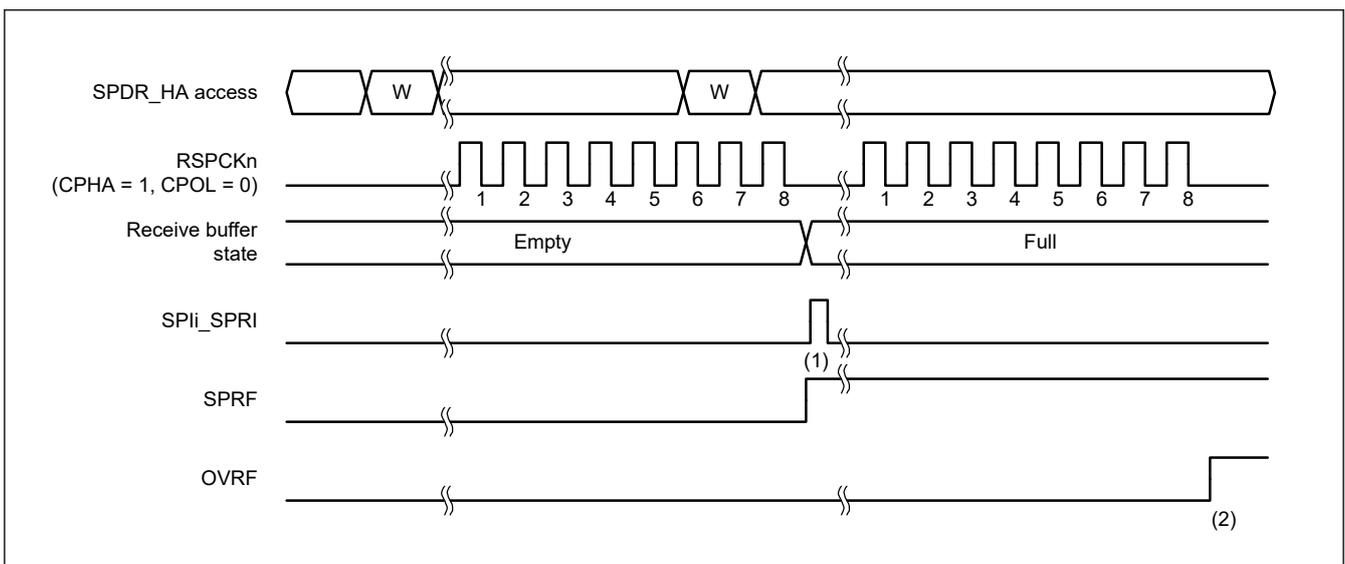
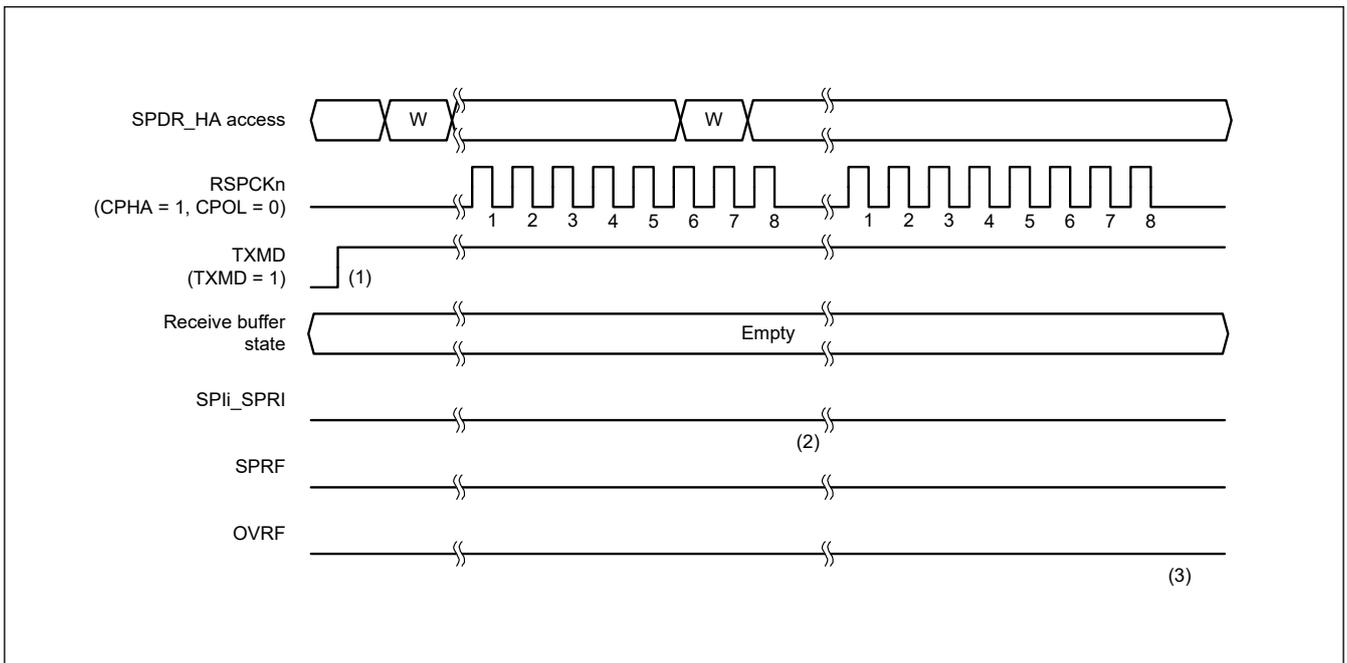

Figure 27.23 Operation example when SPCR.TXMD = 0
Figure 27.24 Operation example when SPCR.TXMD = 1
Full-duplex synchronous serial communications or transmit operations can only be selected in the Communications Operating Mode Select bit (SPCR.TXMD). The register accesses shown in Figure 27.23 and Figure 27.24 indicate the condition of access to the SPDR/SPDR_HA register, where W denotes a write cycle.
Figure 27.23 shows an example of operation when the Communications Operating Mode Select bit (SPCR.TXMD) is set to 0. In this example, the SPI performs an 8-bit serial transfer when the SPCMD0.CPHA bit is 1, and the SPCMD0.CPOL bit is 0. The numbers given for RSPCKn in the waveform represent the number of RSPCK cycles, such as the number of transferred bits.
The operation of the flags at timings (1) and (2) in Figure 27.23 is as follows:
Figure 27.24 shows an example of operation when the Communications Operating Mode Select bit (SPCR.TXMD) is set to 1. In this example, the SPI performs an 8-bit serial transfer when the SPCMD0.CPHA bit is 1, and the SPCMD0.CPOL bit is 0. The numbers given for RSPCKn in the waveform represent the number of RSPCK cycles, such as the number of transferred bits.
The operation of the flags at timings (1) to (3) in Figure 27.24 is as follows: